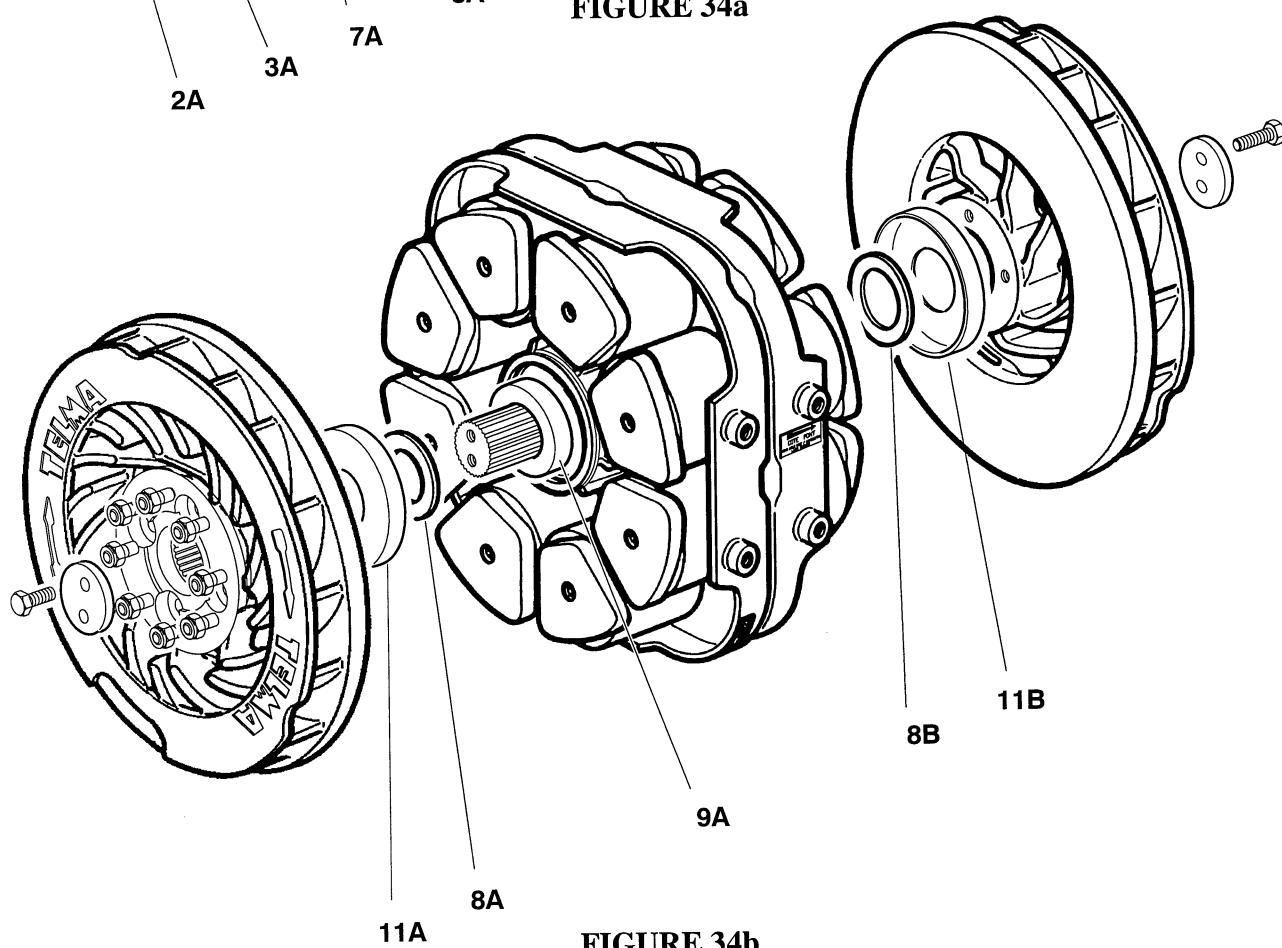

FIGURE 34b
– Figure 34b : LLG version (Long Life Greasing)
- the shaft end screws, items 2A and 2B
- the plates, items 3A and 3B
- the rotor and coupling flange assemblies, items 7A and 7B
- the dust covers, items 11A and 11B, in case of the LLG version
- the air–gap adjusting shims, items 8A and 8B
- the seal races, items 9A and 9B, for the lip seals